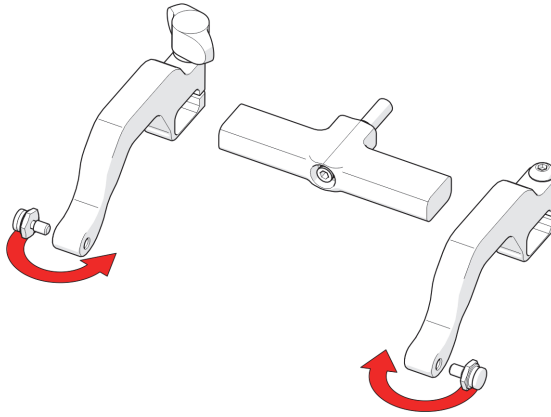

Figure 2-87 Position pivot buttons
5. Position the pivot buttons so they are on the inside of the probe holder arms (see Figure 2-87 on page 113).